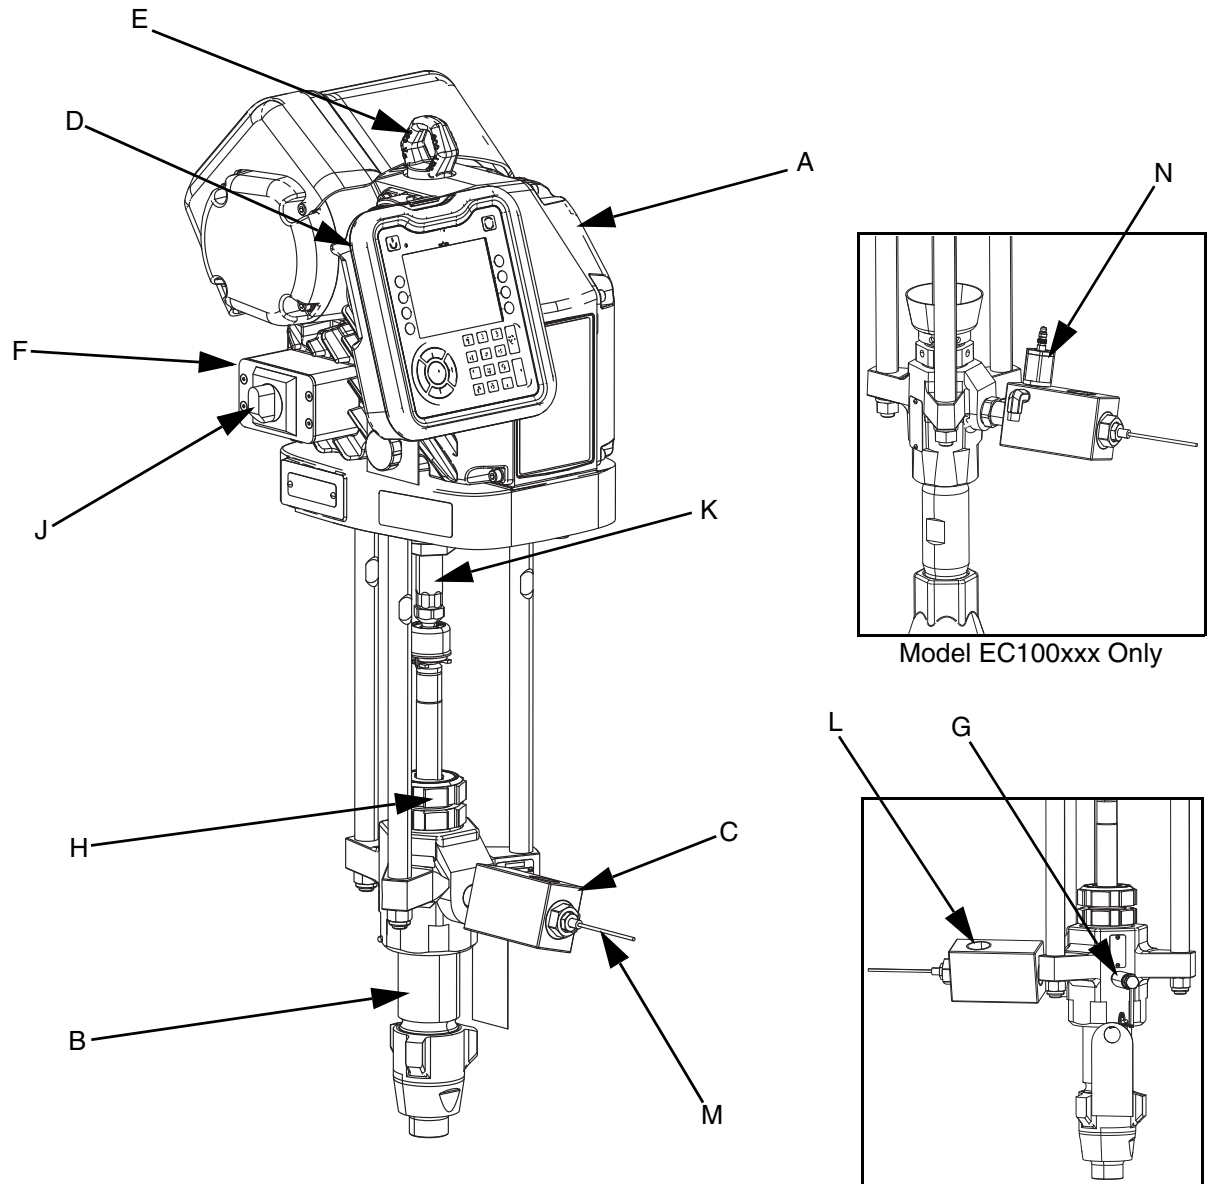

FIG. 1: E-Flo SP Components
Attach a chain or hook at the proper lift location. Lift off the pallet using a crane or a forklift. See the lift ring (E) in **Figure 1** on page **7**.